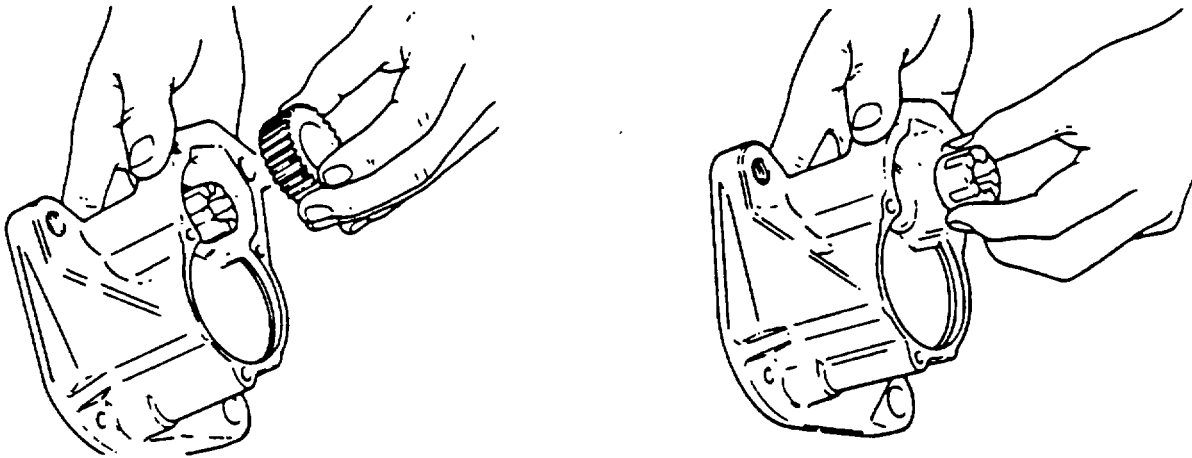

FIGURE 3-24. Removing Pinion, Retainer, and Rollers (Typical)
- j. Remove starter pinion (19, FIGURE 3-15), retainer (20), and five rollers (21) from housing (16), refer to FIGURE 3-24.